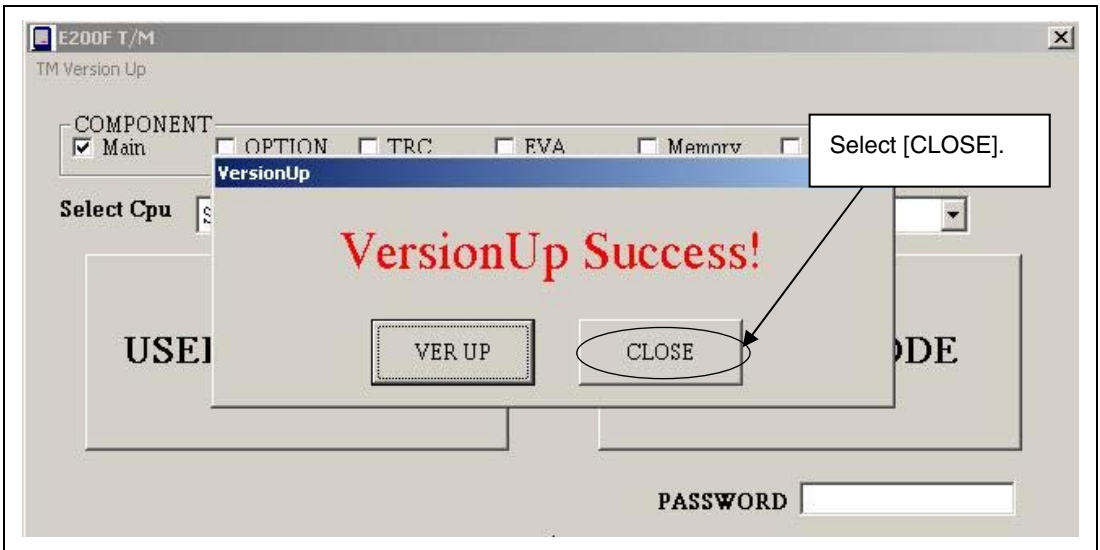

Figure 3.13 Screen when Completing Update
8. When updating the program is executed and completed, the screen shown in figure 3.13 is displayed.